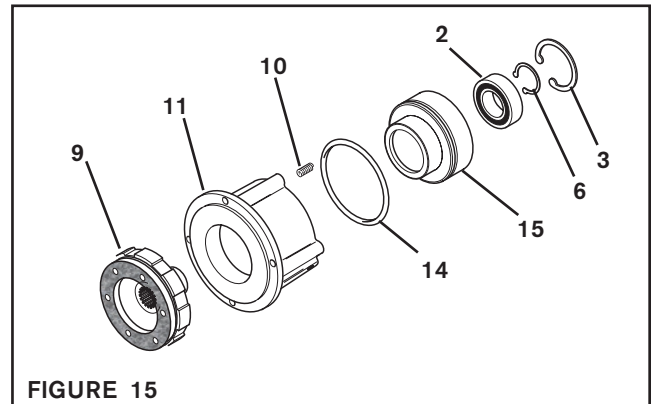

FIGURE 15
6. Using a "C" clamp, compress the Piston (Item 15) into the Air Chamber (Item 11) (See Figure 15).
7. Remove the Retaining Ring (Item 6) from the Splined Disc (Item 9) (See Figure 15).
8. Press the Splined Disc (Item 9) from the Bearing (Item 2) (See Figure 15).
9. Slowly release the "C" clamp holding the Piston (Item 15) in the Air Chamber (Item 11); then, remove the Piston (Item 15) from the Air Chamber (Item 11) (See Figure 15).
10. Remove the six Compression Springs (Item 10) (See Figure 15).
11. Remove the Retaining Ring (Item 3) from the Piston (Item 15) (See Figure 15).
12. Remove and discard the old O-ring Seal (Item 14) from the Piston (Item 15) (See Figure 15).
13. Press the Bearing (Item 2) out of the Piston (Item 15) (See Figure 15).
16. Carefully align the outer race of the new Bearing (Item 2) with the bore of the Piston (Item 15) (See Figure 15).
17. Supporting the Piston (Item 15) and pressing on the outer race of the new Bearing (Item 2), press the new Bearing into the Piston (See Figure 15).
18. Reinstall the Retaining Ring (Item 3), securing the Bearing to the Piston (Item 15) (See Figure 15).
19. Coat the O-ring contact surfaces of the Air Chamber (Item 11), Piston (Item 15), and the O-ring Seal (Item 14) with a thin film of O-ring lubricant and install the new O-ring Seal (See Figure 15).
20. Reinstall the six Compression Springs (Item 10) into the Air Chamber (Item 11) (See Figure 15).
21. Slide the Piston (Item 15) into the Air Chamber (Item 11) (See Figure 15).
22. Using a "C" clamp, compress the Piston (Item 15) into the Air Chamber (Item 11) (See Figure 15).
23. Support the inner race of the Bearing (Item 2) and press the Splined Disc (Item 9) into the Bearing and Piston (Item 15) (See Figure 15).
24. Reinstall the Retaining Ring (Item 6) that secures the Splined Disc (Item 9) to the Bearing (Item 2) (See Figure 15).